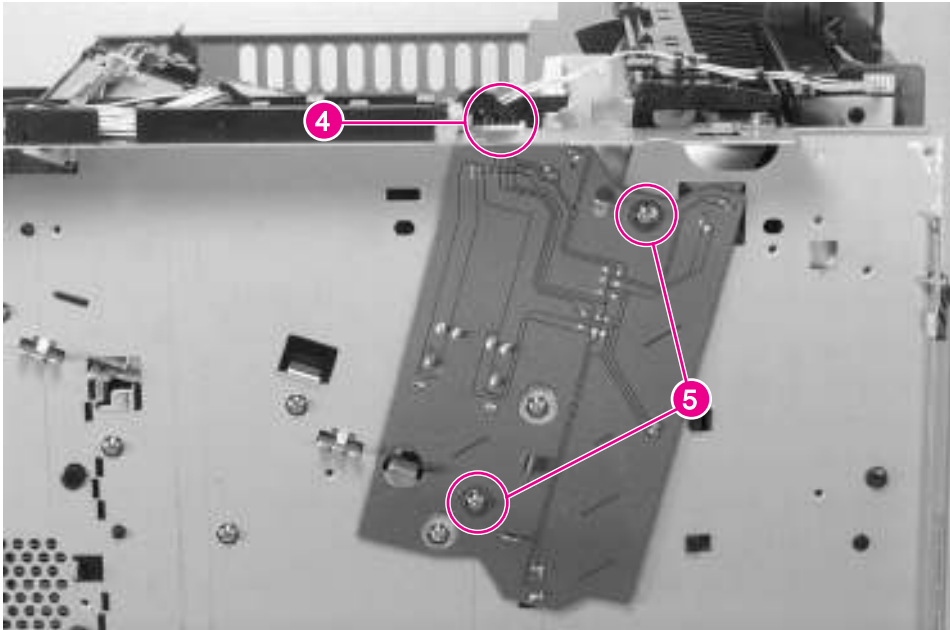

Figure 6-45
- 5 Unplug the connector (figure 6-45, callout 4).
- 6 Remove 2 screws (figure 6-45, callout 5), and unplug the connector on the back side of the PCA.